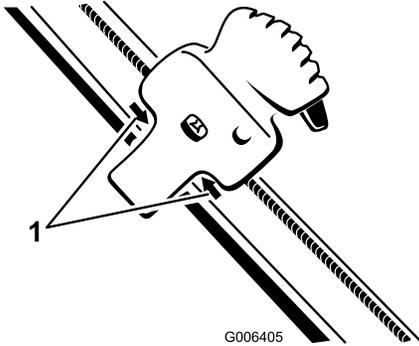

**Figure 40**
1. Loosen the two Quick Shoot control cable clamps (Figure 40).